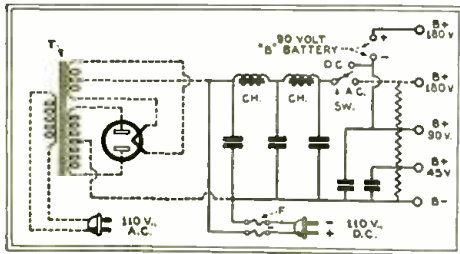

Fig. 1
**E**XPERIMENTERS do not seem to have struck upon the little kink illustrated in Fig. 1. It shows the manner in which an ordinary "B" eliminator designed for A.C. operation may be used to supply the various "B" potentials required for a radio set when operated on a 120-volt D.C. line.